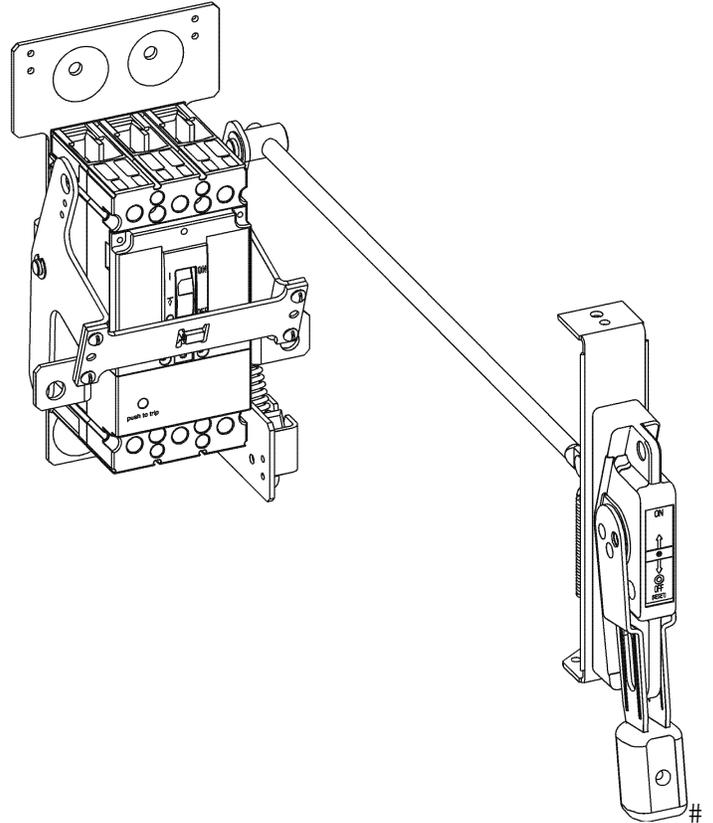
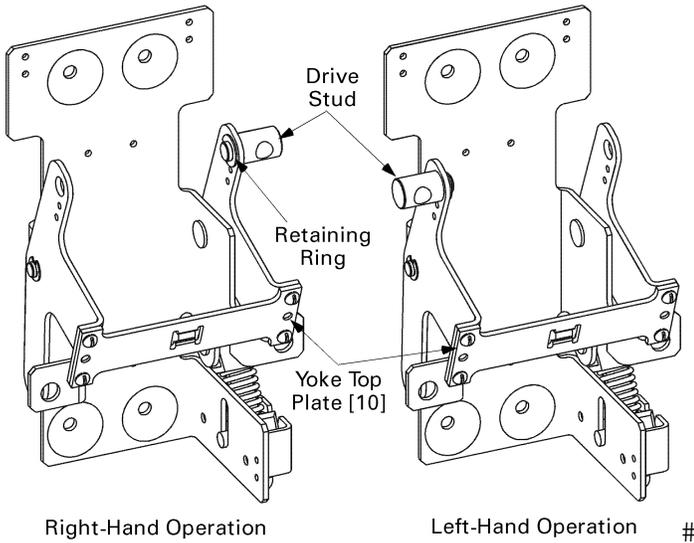

Figure 1. Variable-depth operating mechanism installed on a Record Plus™ FC100 circuit breaker.
Figure 2. Variable-depth operating mechanism, as set up for right-hand or left-hand operation.
The operating mechanism is driven by a type-STDA flange-mounted operating handle (ordered separately), as illustrated in Figure 1. The individual mechanism is shown in Figure 2. The variable-depth mechanism is built at the factory for right-hand operation, but can be field converted to left-hand operation.
1. If the operating mechanism is to be installed with right-hand operation, proceed to step 2. If it is to be installed for left-hand operation, remove the retaining ring and drive stud from the right-hand yoke, as shown in Figure 2, and reinstall them on the left-hand yoke.